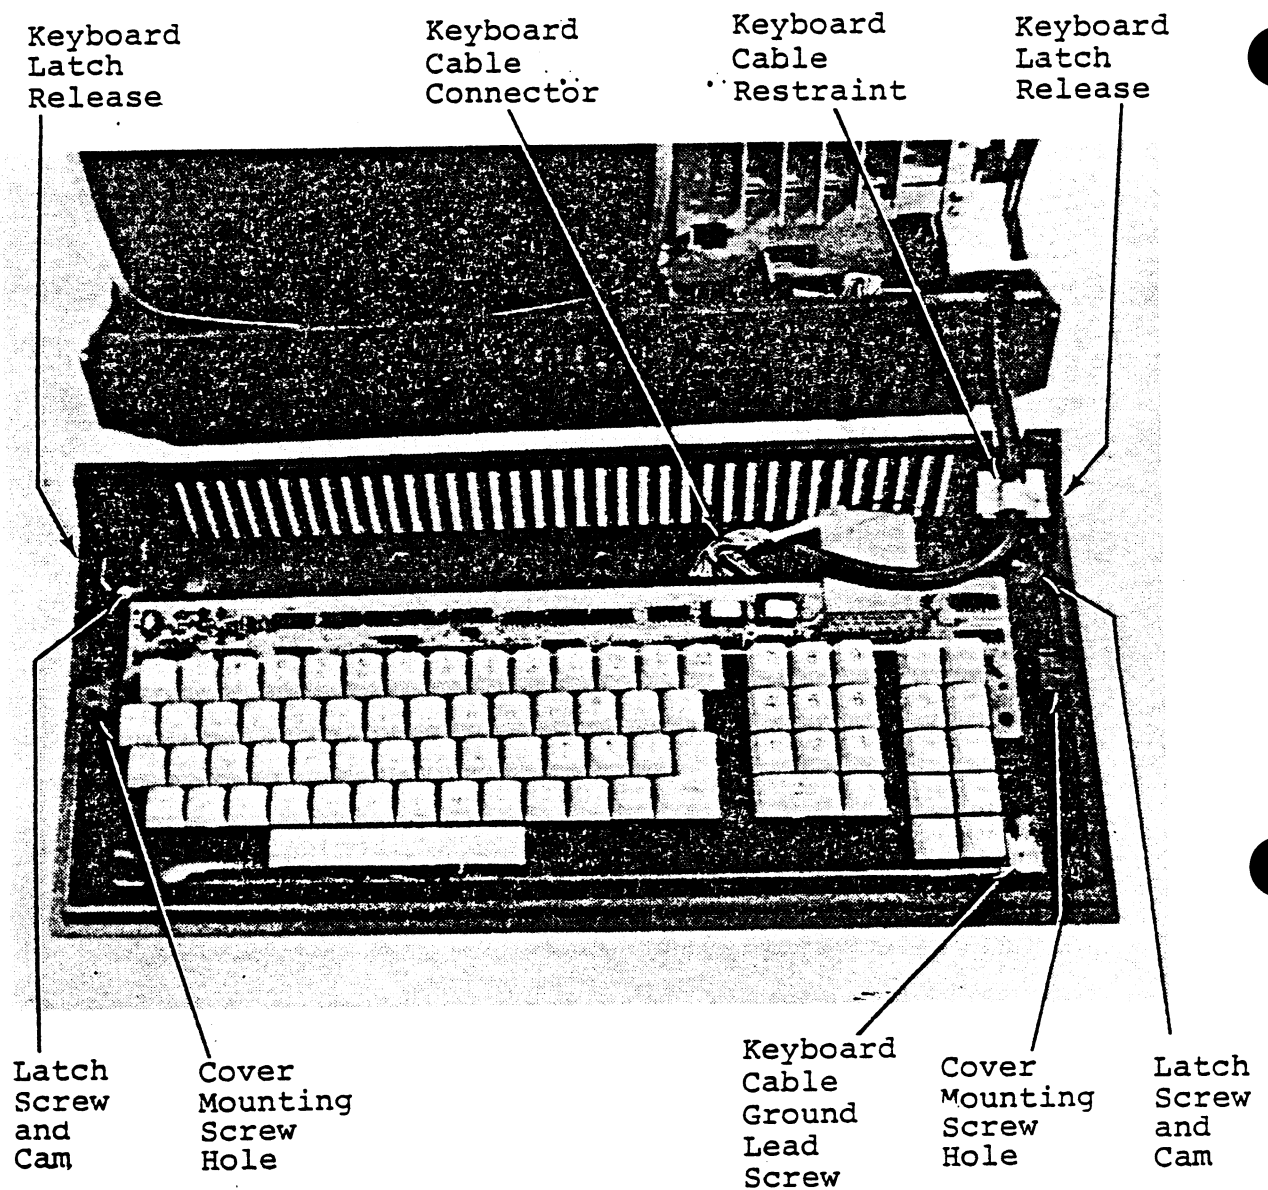

Figure 5-1. Keyboard Removal
The removable keyboard is attached to the lower front of the processor cabinet with two spring latches (one latch at each end of the keyboard). The keyboard, when detached, may be moved from the processor the length of the keyboard cable which is approximately one meter (Figure 5-1).
The keyboard cover is secured to the base plate by two screws (one screw at each end of the keyboard), see Figure 5-1.
The keyboard assembly is mounted on the keyboard base plate with four screws (two screws at each end of the keyboard), see Figure 5-1.
The keyboard is held to the processor base with two keyboard latches. To ensure that the keyboard can be easily attached and detached from the processor and to ensure that the keyboard contains no noticeable looseness when attached to the processor, the keyboard latches must be adjusted. The latches are located at the rear of either end of the keyboard base (Figure 5-1).
- c. Loosen latch screw (Figure 5-1).
- d. Rotate latch cam (with pliers or wrench) for maximum retraction of latch hook into keyboard (Figure 5-1).